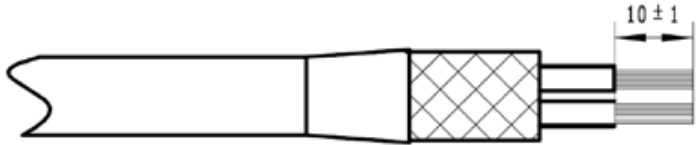

Figure 4-15 Stripping the sheath off each core wire
Step 4: Strip the inner jacket of the conductor per dimension shown, as shown in Figure 4-15.